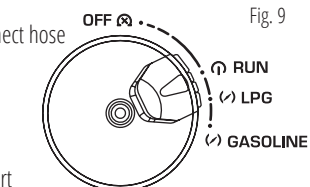

Fig. 9
6. Turn switch back to RUN position (fig. 9).
8. Turn switch back to RUN position (fig. 9).